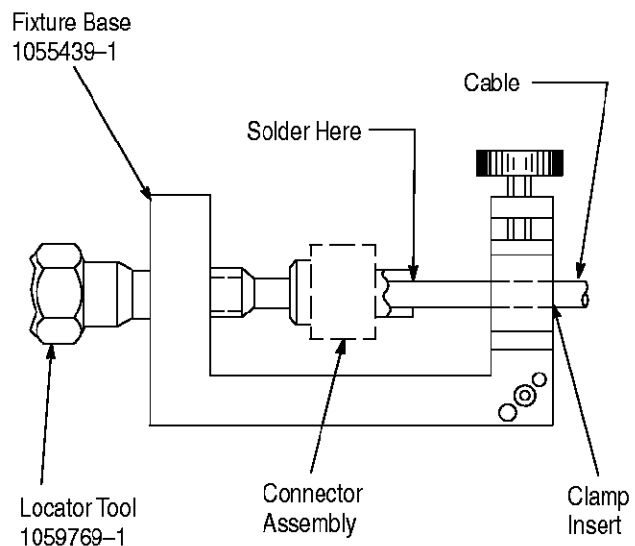

Figure 5
2. Place the cable and connector (loosely) in the fixture base as shown in Figure 5.
5. With the connector held firmly against the locator tool and the cable in the connector, solder the connector to cable (with 60/40 solder) as shown in Figure 5.